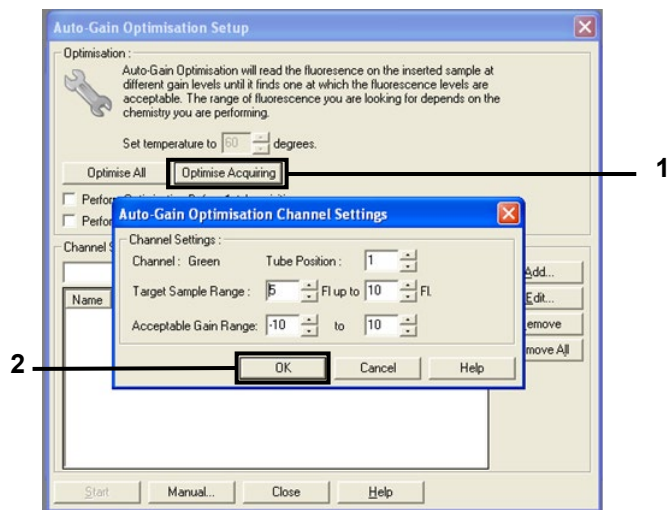

Figure 11. Auto-gain optimization for the Green channel. (1 = "Optimize Acquiring"; 2 = "OK")
13. Click **Optimize Acquiring**. Channel settings are displayed for each channel. Click **OK** to accept these default values for both channels (Figure 11).